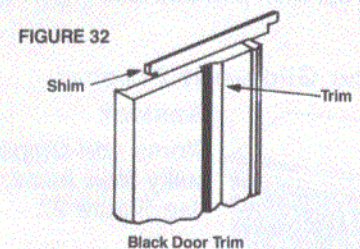
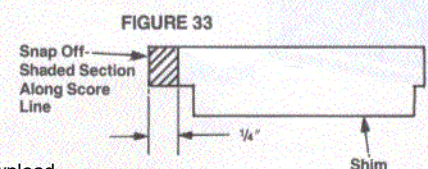

FIGURE 32
FIGURE 33
5. **NOTE:** On models having black handles and trim it will be necessary to modify a small black plastic shim located behind the top end of the upper trim piece on the handle side of the door. Remove shim by sliding part to the right. See Fig. 32 and 32A. Modify per Fig. 33, then reinstall shim by sliding it back into place.